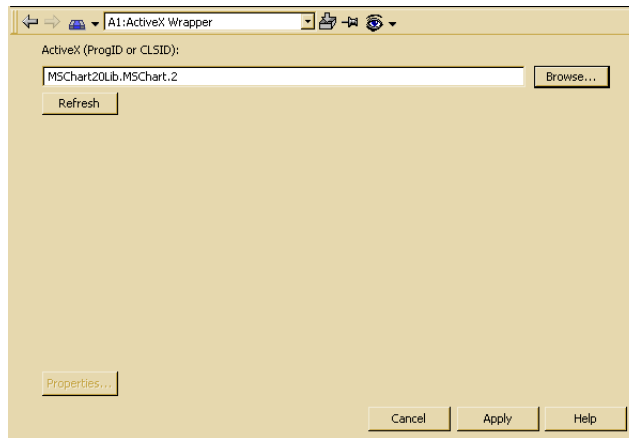

Figure 241. The ActiveX Wrapper Aspect Dialog Box
5. Click the **Refresh** button in the ActiveX Wrapper dialog, see Figure 241, to verify that you have selected the proper ActiveX Wrapper.